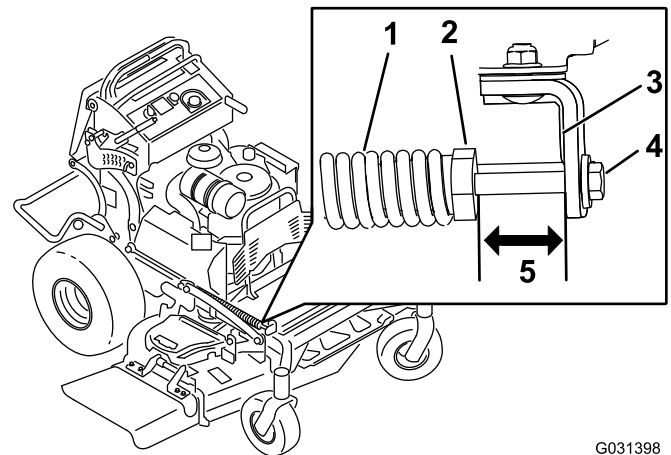

Figure 83
2. Check the length between the spring nut and the rear side of the welded mount bracket (Figure 83).
3. Ensure that the length is between 47 to 50 mm (1.8 to 2 inches) (Figure 83).
4. If needed, adjust the distance by adjusting the bolt on the front of the mount bracket (Figure 83).